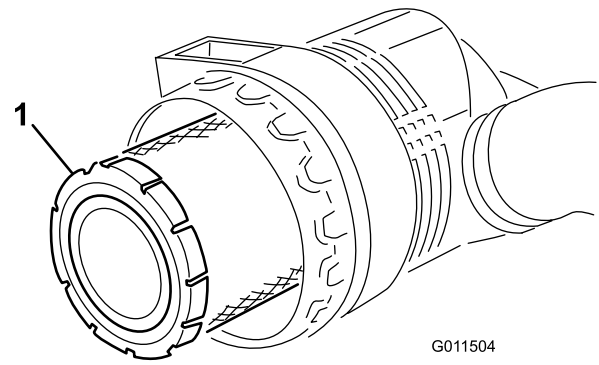
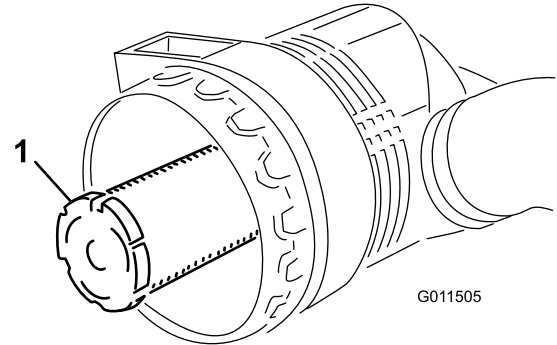

Figure 50
Figure 51
Important: Never attempt to clean the safety filter (Figure 51). Replace the safety filter with a new one after every three primary filter services.
4. Replace the primary filter (Figure 50).
3. Remove the primary filter (Figure 50). Cleaning of the used element is not recommended due to the possibility of damage to the filter media. Inspect the new filter for shipping damage, checking the sealing end of the filter and the body. Do not use a damaged element. **Do not** remove the safety filter (Figure 51).